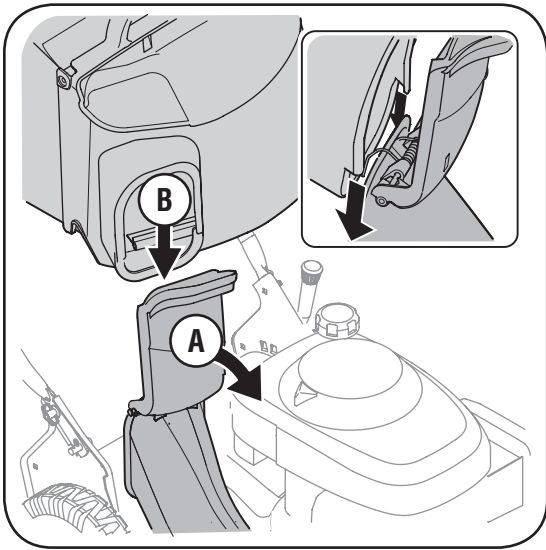

Figure 3-5: Attach the grass bag to discharge chute.
- c. Lift chute door on the discharge chute and slide grass bag onto the chute. See Figure 3-5.